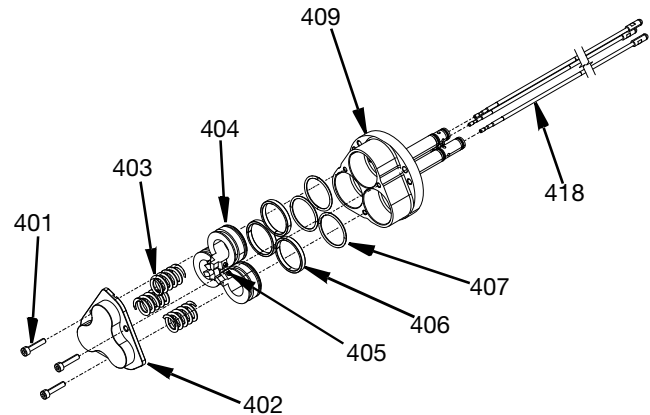

FIG. 16
1. Detach cylinder cover (402) by removing three M4 SHCS screws (401) with hex key wrench. Loosen screws evenly because the cover is under spring (403) tension and could bind when removed.
2. Loosen M3 set screws (405) three turns each and pull ball shut off needles (418) out of the assembly. See FIG. 16.
3. Extract pistons (404) from air cylinder housing (409). Discard guide rings (406) and O-rings (407).